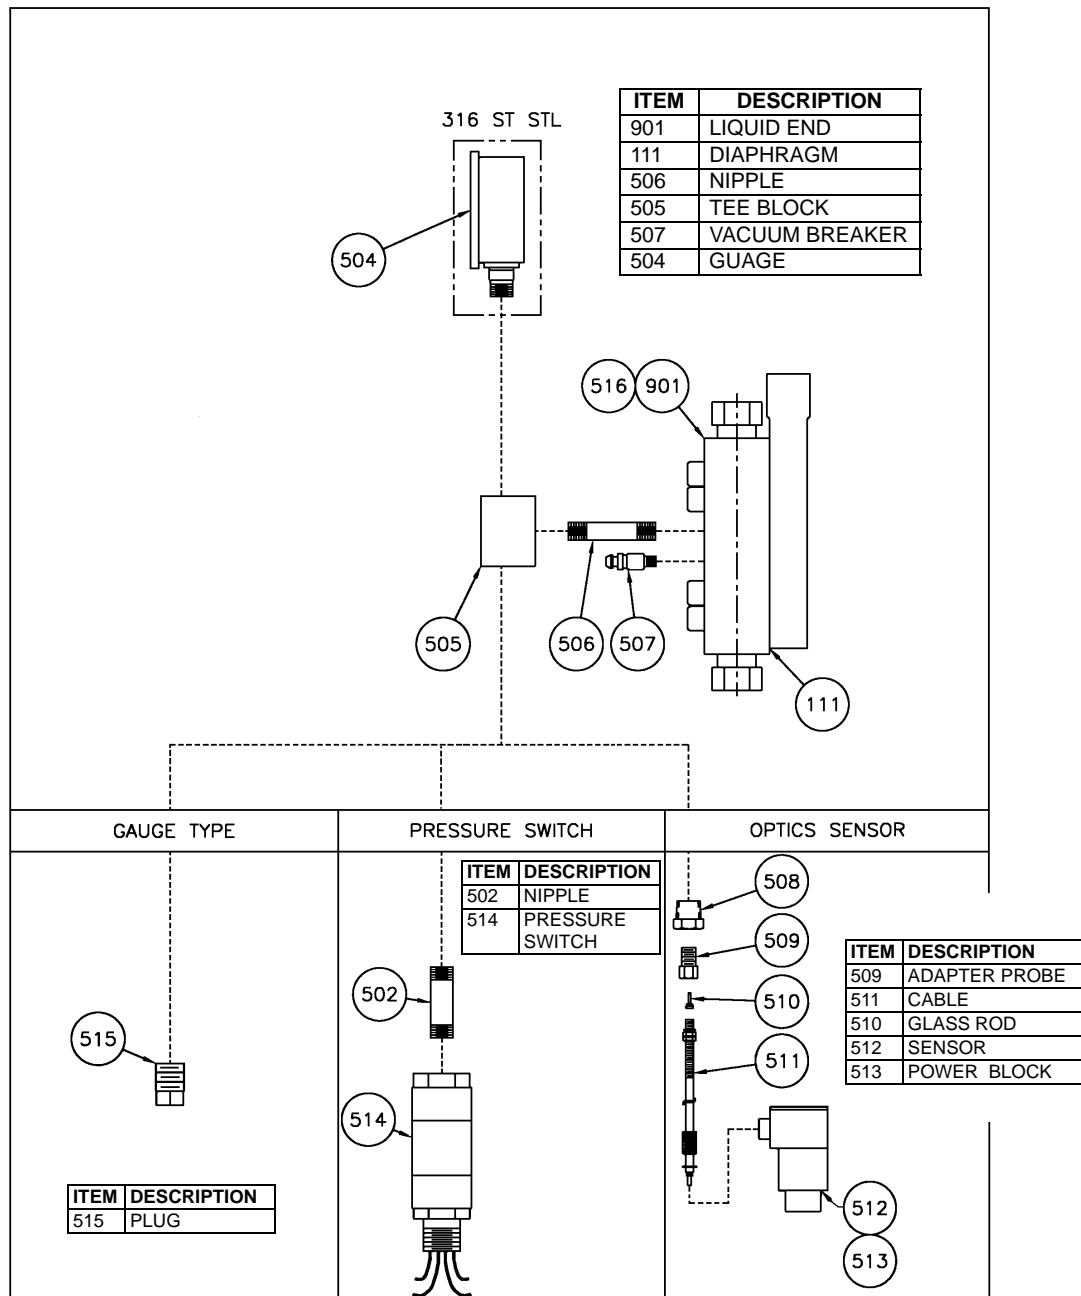

Figure 23. Metallic Leak Detection.
3. Loosen the bleeder located on the face of the liquid head. See Figures 23 & 24.
1. Assemble components as shown in Figures 23 & 24. Be sure all connections are adequately tightened to prevent leaks. Use TFE based pipe sealant for best results.
1. Install o-ring over glass probe and insert into probe adapter. See Figures 23 & 24.